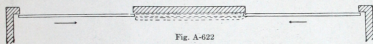

Fig. A-622
- 2 doors sliding back of center wall between two doorways (Fig. A-622).
Plan, Fig. A-622—(a) 1 No. 525 Lock or 1 No. 510 Lock to lock one door from both inside and outside, and 1 No. 524 Bolt to lock one door from the inside only.